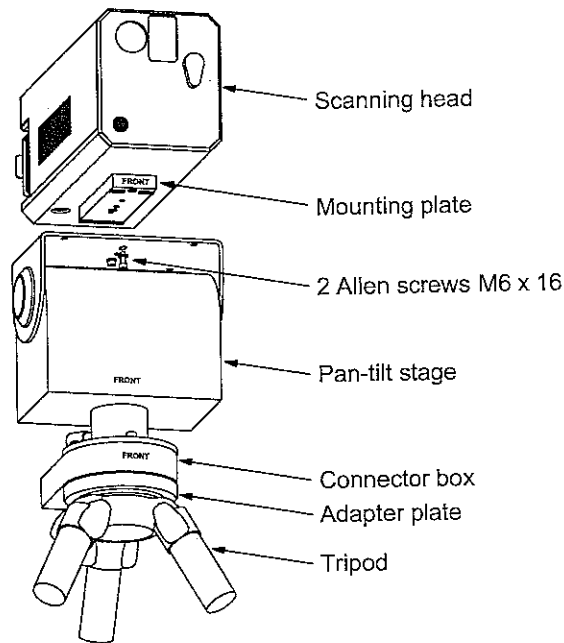

Figure 3.14: Mounting the scanning head on the pan-tilt stage
10. Then mount the scanning head with its mounting plate on the pan-tilt stage using the 2 Allen screws M6x16 and the washers as shown in figure 3.14.